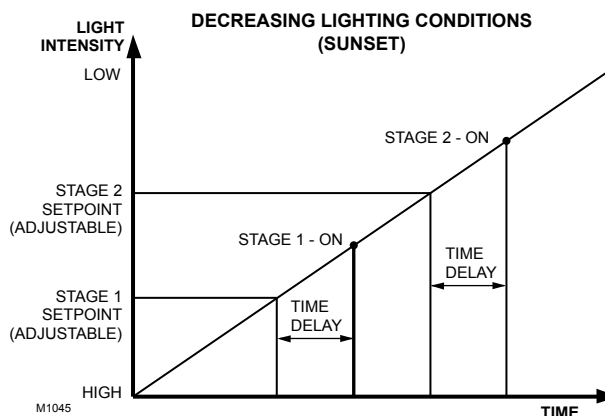

Fig. 8. Sequence of operation.
- Refer to Fig. 8 for sequence of operation.